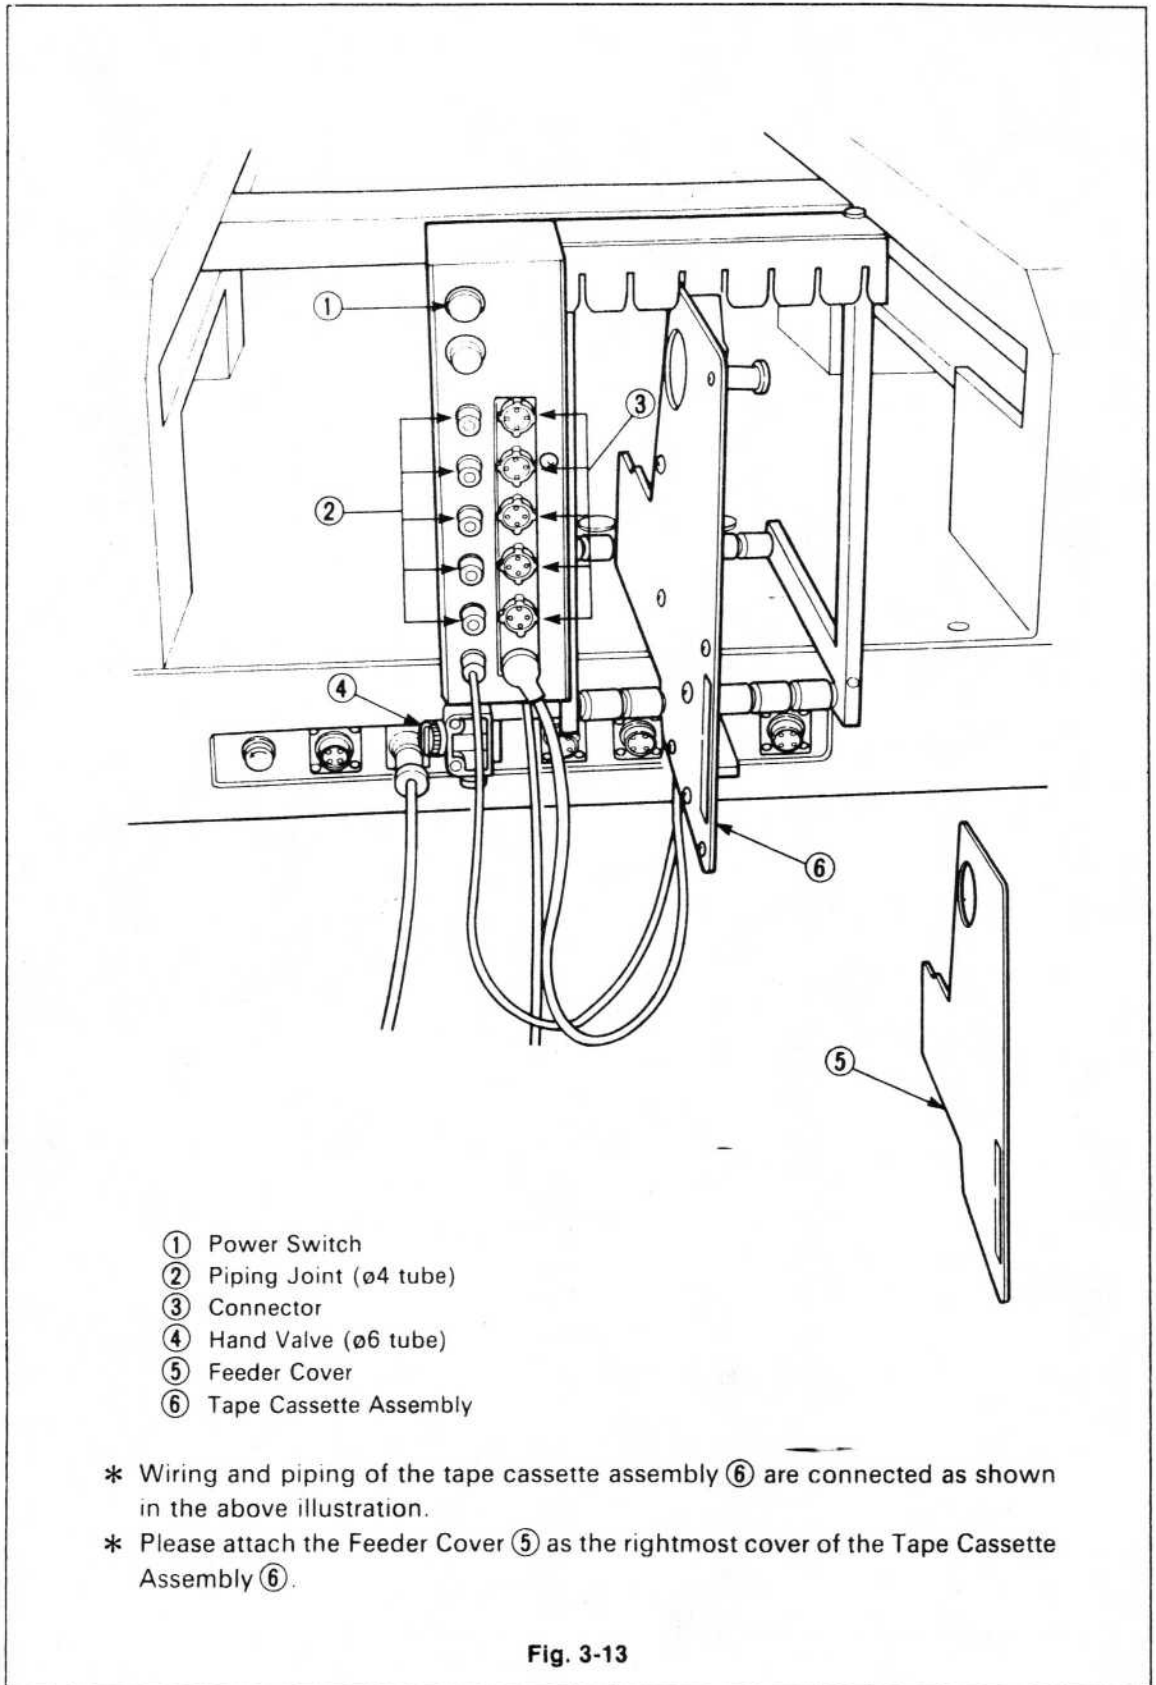

Fig. 3-13
1. Fasten the attachment assembly to the base using the 2 handknobs ①, as in Fig. 3-13.